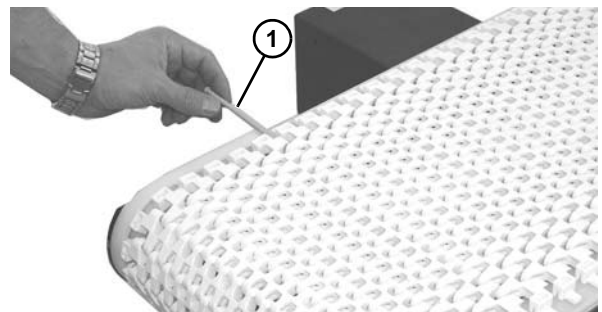

Figure 31
2. Use a punch and hammer to push the belt rod (**Figure 31, item 1**) out by striking the rod end opposite the retaining head.